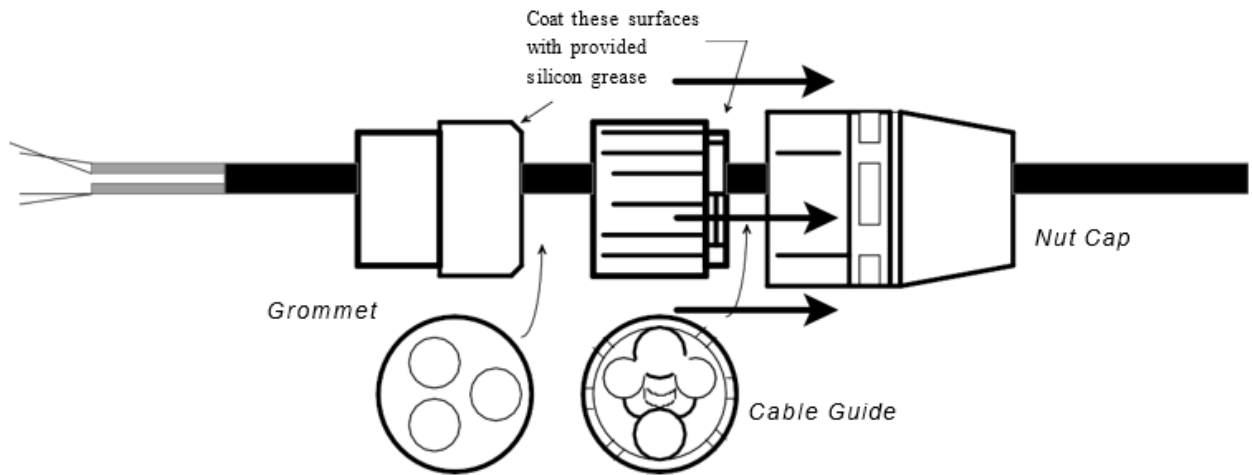

Figure 1
- 1 Place the cable guide (piece with multi-holes in one end) within the nut cap so the multi-holes are facing the taper, then squeeze the two pieces together until they lock. The inner piece will now float within the nut cap without falling out. See figure 1.
- 2 Position this assembly over the cable with taper facing away from the closure port as shown in Figure 1.
- 3 Next, install the appropriate size cable grommet over the cable with the flat side facing the closure port. See Figure 1.